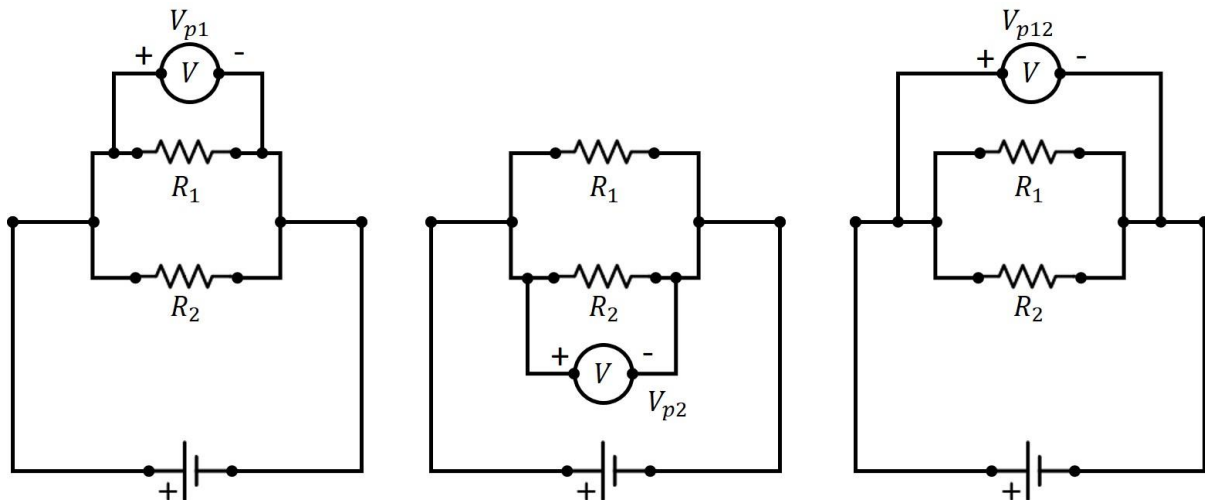

Figure 1.4
- 3.2 Reconnect the circuits according to Figure 1.4, and use the meter to measure  $V_{p12}$ ,  $V_{p1}$  and  $V_{p2}$  from the **parallel** combination of  $R_1$  and  $R_2$ .